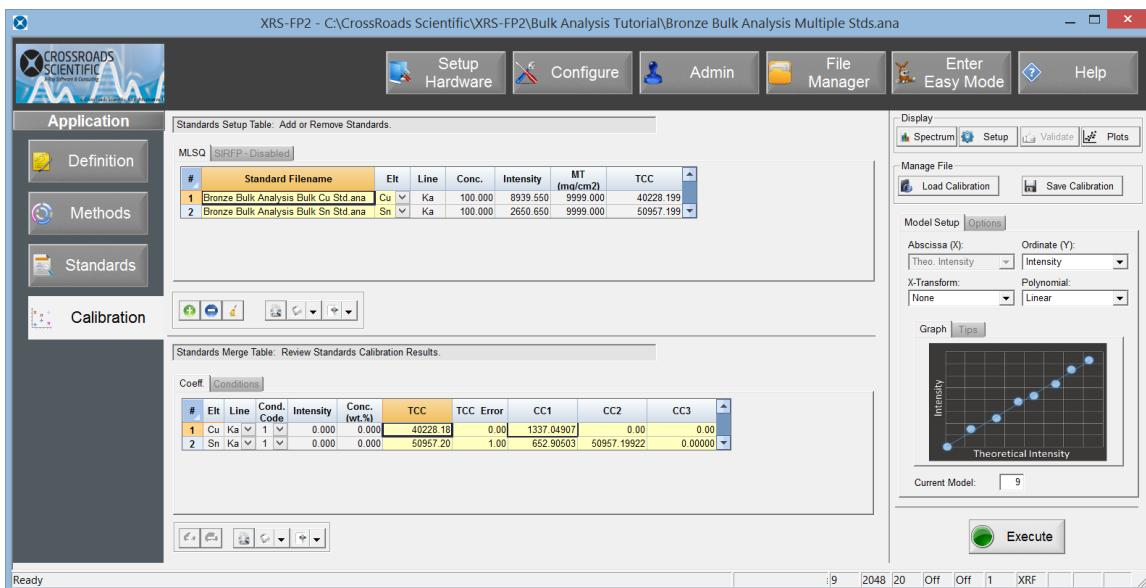

Figure 28. XRS-FP2 Calibration Workflow. Merge the TCC values for the bulk Cu & Sn standards to generate the Standards Merge Table for each element.
with different concentrations and mass thicknesses of each element. Select the type of model to be used by clicking on the “Ordinate (Y)” drop-down menu button in the “Model Setup” tab in the R-hand panel and select the “Intensity” model (Model #9) in the “Ordinate (Y)” column for this application (Fig. 28 below). Then click on the **Execute** button in the R-hand panel of the Calibration workflow. Note that the TCC values for Cu and Sn are now displayed in the Standards Merge Table. See Figure 28 below.